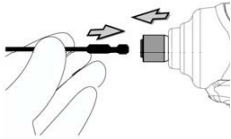

Fig. 1
1. To install the bit, pull the retainer in the direction of the arrow and insert the bit into the retainer as far as it will go. Then release the retainer to secure the bit. As shown in (Fig. 1).